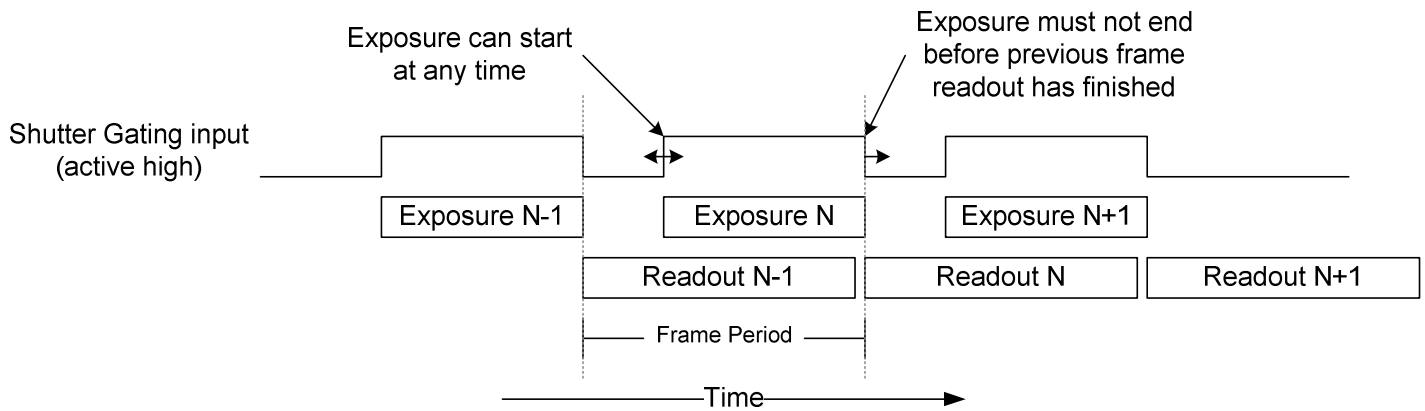

Figure 8 - Shutter gating timing
3. Exposure end must occur at least one frame period ($1 / (\text{frame rate})$) after the previous exposure end to allow time for sensor readout. An example is shown in Figure 8 below. Frame period can be determined for your current resolution in the Record Settings window, under the ROI display.